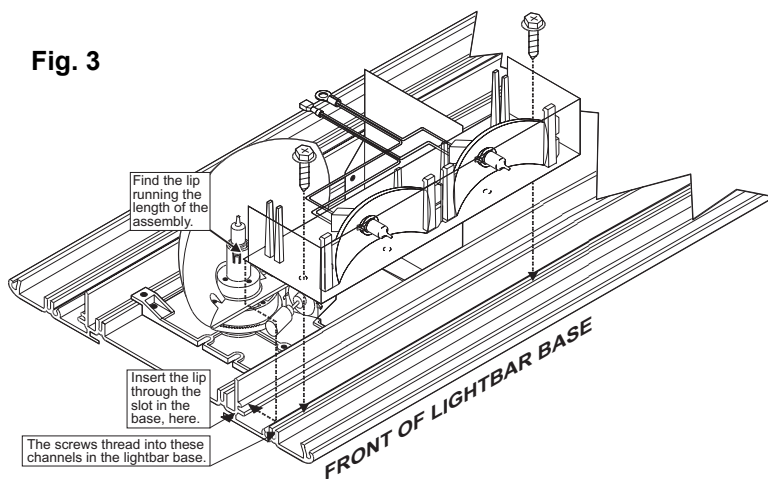

Fig. 3
2. Place the front flasher filter assembly on the lightbar base (Figs. 3 & 4). Be sure to insert the lip running the length of the light assembly, into the channel running the length of the lightbar base (Fig. 3). Secure the assembly to the channel in the lightbar base using two of the 3/8" hex head screws provided. Repeat this step for the other side of the lightbar.